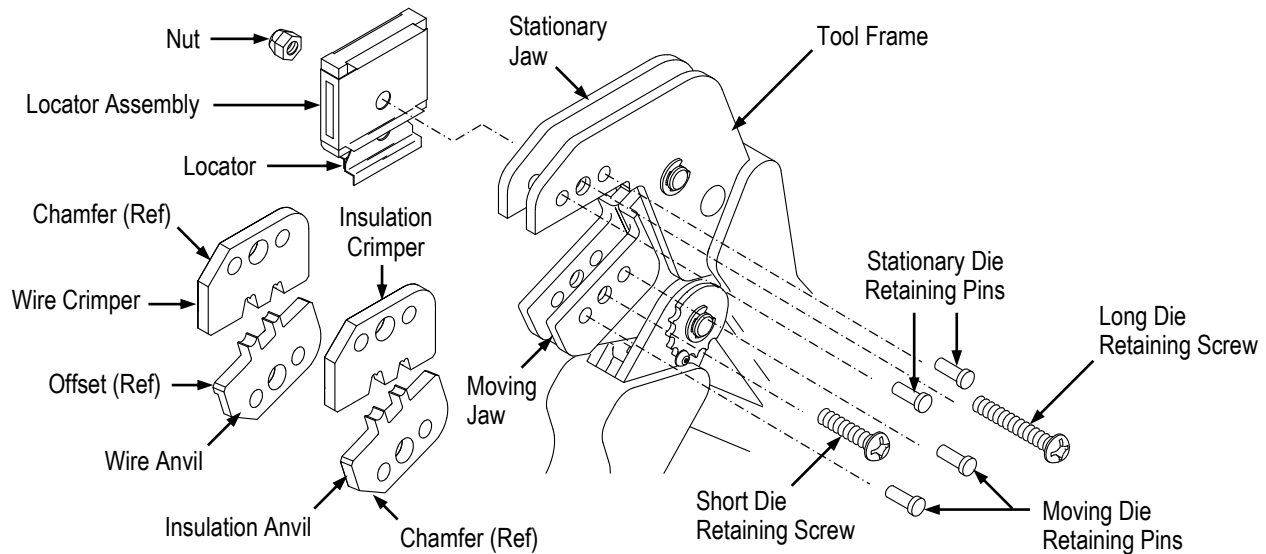

Figure 2
3. Place the wire anvil and insulation anvil in the moving jaw of the tool frame as shown in Figure 2.
6. Place the wire crimper and insulation crimper in the stationary jaw of the tool frame as shown in Figure 2.